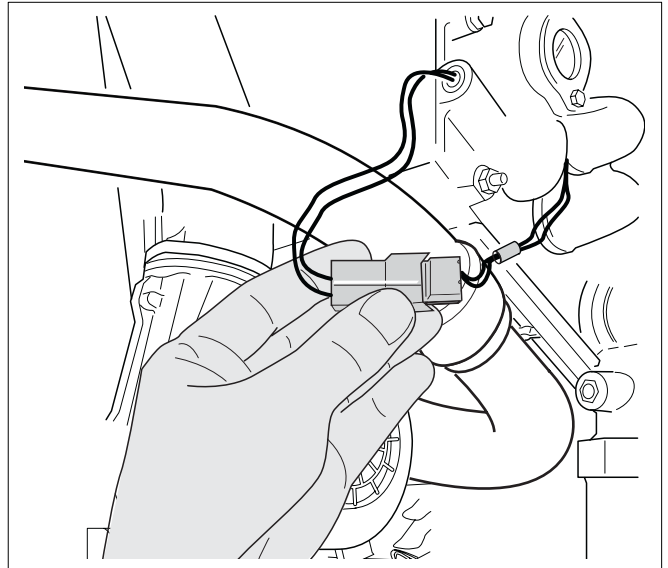

Fig. 121 Loosening the plug and socket connections of the supply sensor
- Disconnect the plug and socket connections of the supply, return and safety sensors (see fig. 121, 122 and 123).